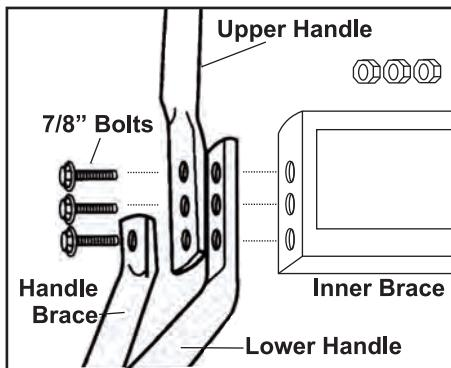

FIGURE 1: Use two factory-installed bolts and nuts, plus four bolts and nuts included in the hardware kit to install the handle.
- A.** Remove the bolt and nut securing the left side handle brace to the lower handle and inner brace (see Figure 1).